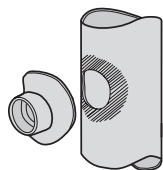
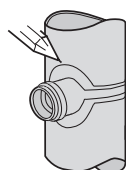

Fig.26a Saddle adaptor
Fig.26b Strap on boss
**Step 3** – Position saddle (Fig.26a) or strap on boss (Fig.26b) and mark outline of saddle or boss flange on pipe